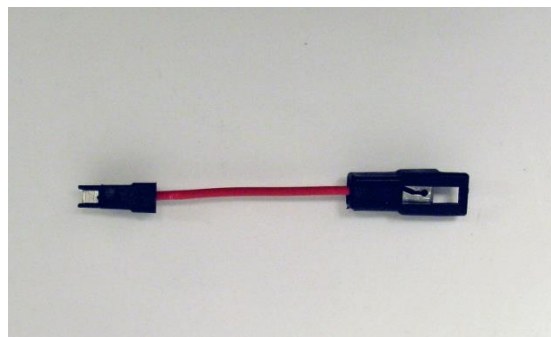

Figure 37 – 1979-82 Jumper Harness
39. For 1968-78 applications, attach a 12V constant power source to the module by installing the red wire with the black connector from the new harness into an open slot on the fuse block labeled "battery". For the 1979-82 applications, you will first need to plug in the provided jumper harness (Figure 37) into the black connector on the red wire from the new harness and then plug the jumper harness into the ATO style fuse block. Use an open slot labeled "battery". **NOTE:** Make sure the 10-amp fuse is installed between the power source and the module.